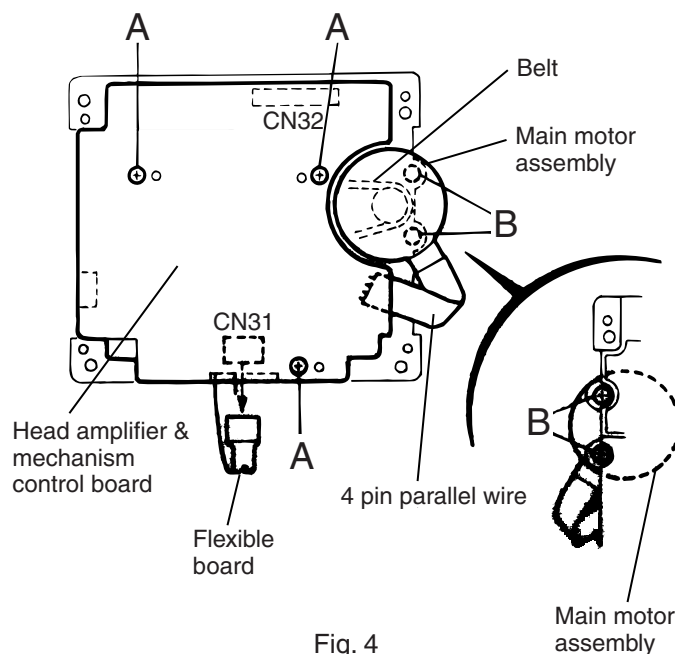

Fig. 4
■ Removing the head amplifier and mechanism control board (See Fig. 4)
■ Removing the main motor assembly (See Fig. 4~7)
1. Remove the two screws **B** retaining capstan motor assembly. (See Fig. 4)